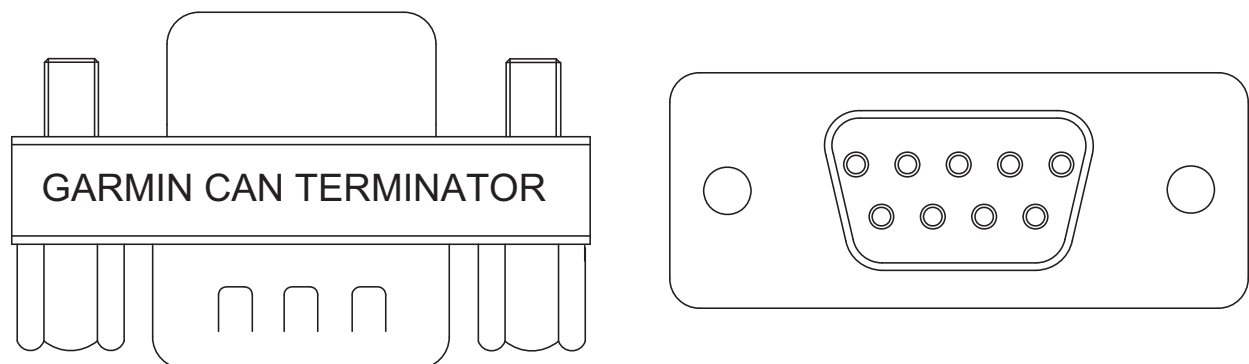

Figure 2-6 CAN Bus Termination (011-02887-00) for the G5, GAD 13, GAD 29, GMU 11, and GPS 20A
- The GAD 13, GAD 29, GMU 11, GPS 20A, and G5 installation kits each provide a 9-pin termination adapter that provides CAN bus termination when attached between the LRU and the cable assembly. The termination adapter contains a 120 Ω resistor that is connected between pins 1 and 2 (Figure 2-6).